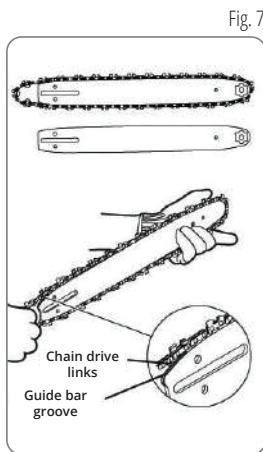

Fig. 7
4. Install the saw chain in the guide slot on the guide bar (see fig. 7).